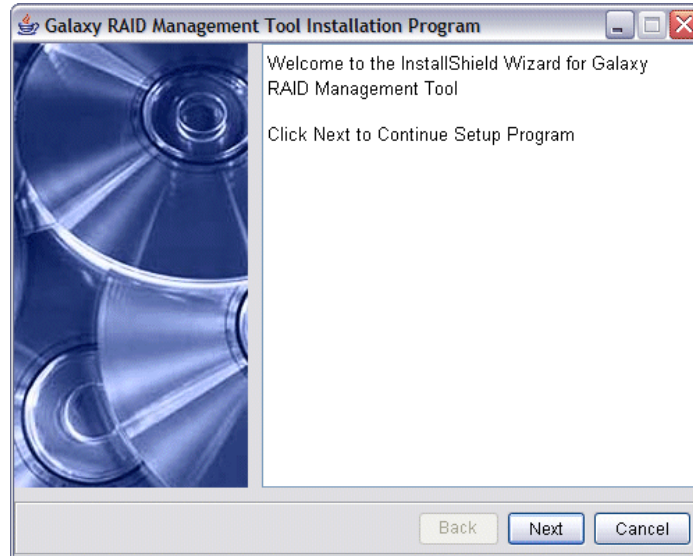

Figure 3-5: Welcome to the Install Shield Window
-  **Step 2.** If you selected the *Next* button on *Figure 3-5*, the License Agreement window seen in *Figure 3-6* will appear. First read through the License Agreement. If you are in agreement with the specified terms and wish to continue installing the RAIDWatch program, select *Accept*. If you do not wish to continue with the installation process then select the *Decline* button.